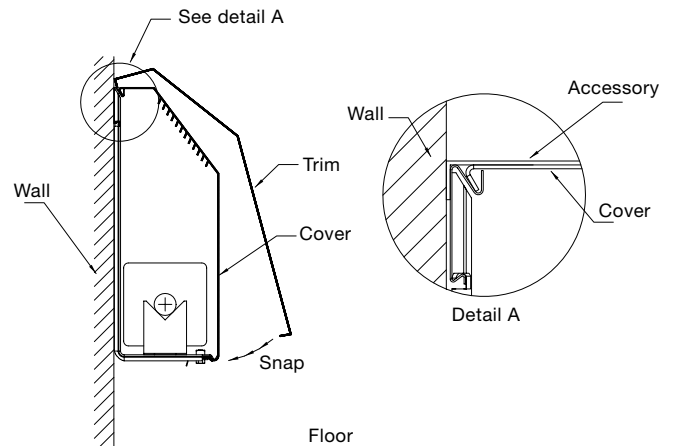

Figure W-8
8. Install accessories between the wall and wall channel at the top and around the cover at the bottom. (Figure W-8)